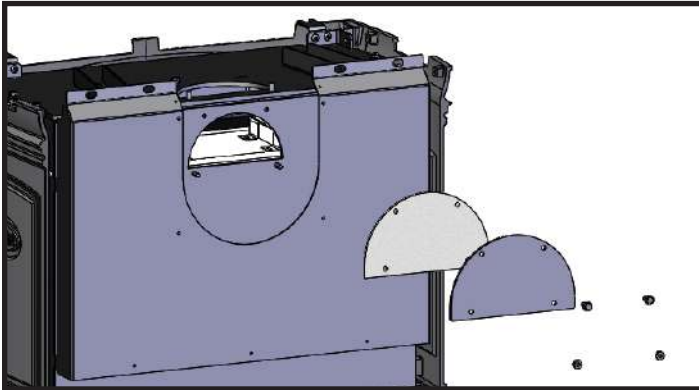

Figure 7: Flue Conversion Step 4.
4. Remove the 2 bolts and two nuts anchoring the Flue Opening Cover to the back. Carefully remove the Cover from the of the back of the firebox (Figure 7). Careful - do not damage the gasket.